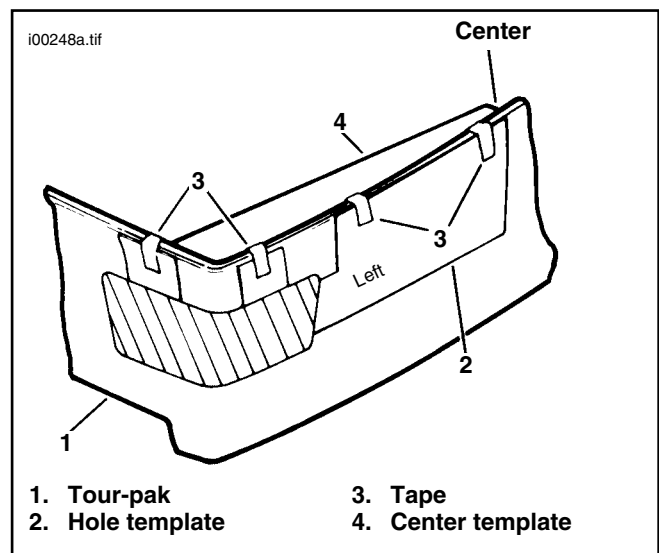

Figure 1. Mounting Templates
4. See Figure 1. Open tour-pak top and remove all loose contents. Remove tour-pak. Place center line template (4) along rear top edge of tour-pak (1) with curved end against one corner. Mark centerline at top edge of tour-pak. Reverse center line template and mark center with curved end against opposite corner. If centerlines overlap, mark center one half the distance between the two lines. Place a square against lip at top of tour-pak and draw a 3 in. line downward from the center mark.
5. Attach four pieces of masking tape to top edge of hole template (2). The hole template is reversible with one side marked left and one side marked right. Looking at the rear of the tour-pak, mount template (2) (left side out), at left side with top edge against lip of tour-pak and large square end flush with centerline. Tape top of template to tour-pak with last tab bent around corner. Remember all tabs are against top lip of tour-pak. While holding template tightly around corner of tour-pak, trace outline of cut-out area (portion with diagonal lines) with felt tip pen or grease pencil.